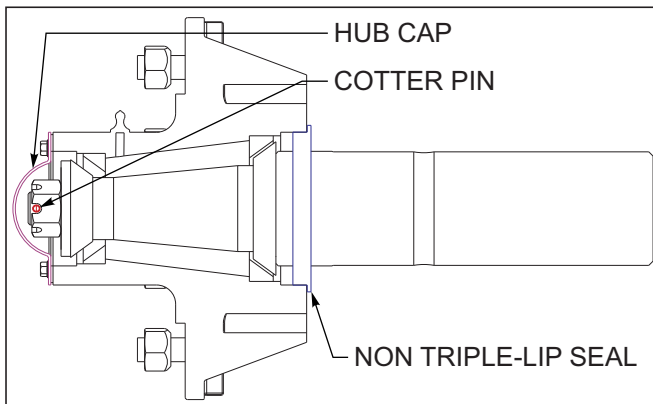

Figure 4-8: Non-Triple Lip-Seal
10. Install the cotter pin, dust cap and gasket. Do not over-tighten the dust cap screws causing the gasket to come out See Figures 4-8.